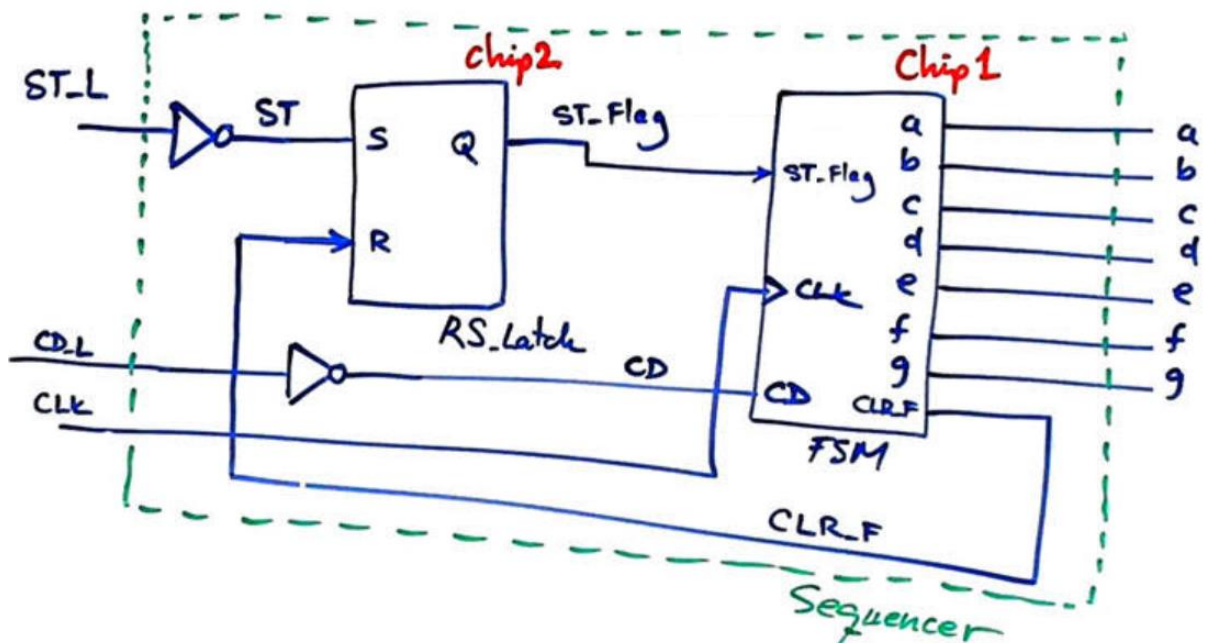

Fig. 8. Sequencer symbol, LED pattern generated in the 7-segment display and proposed schematic.
We want to design a driver to show a LED sequence that indicates a kind of clockwise movement in a single 7-segment display. Fig. 8 represents the symbol, the 7-segment sequence and the proposed schematic diagram of the application. CLK signal to move segments is a 5 Hz rectangular wave.
- a) Explain the circuit in Fig. 8. Why it may work for sequencing LED and for controlling the push-button. How the stop flag is generated and memorised?